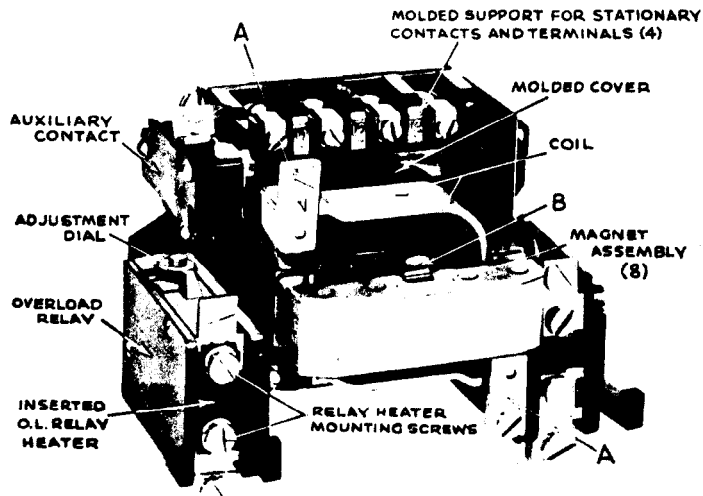

Fig. 1. Typical CR106 starter with auxiliary contact added
1. Press against coil while pulling slightly with fingers on side of coil retainer (A) Fig. 1, and move retainers away from coil.
2. Pull one end of spring clip (B) forward and slide out of slot.
1. Press against coil while pulling slightly on coil retainer (A) Fig. 1, and move retainer away from coil.